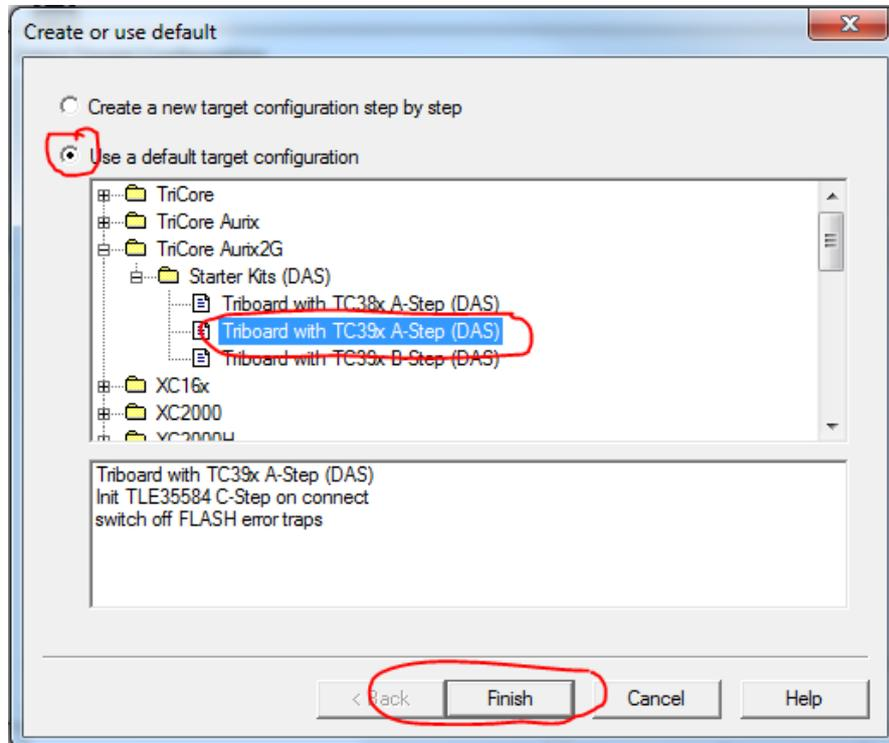

Figure 4: Selecting New Configuration
6. Select configuration depending on the TriCore version, StepA or StepB, here StepA is selected (Figure 4):